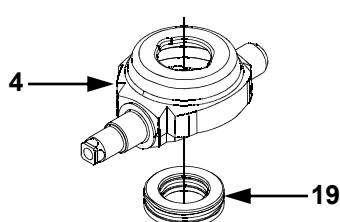

Figure 18
13. **(See Fig. 18)** Remove the thrust bearing assembly (19) from the swashplate (4).
14. **(See Fig. 18)** Install the pump thrust bearing (19) in the trunnion machined swashplate (4). NOTE: Place the thin race of the bearing towards the swashplate. The thick race must face the pistons.